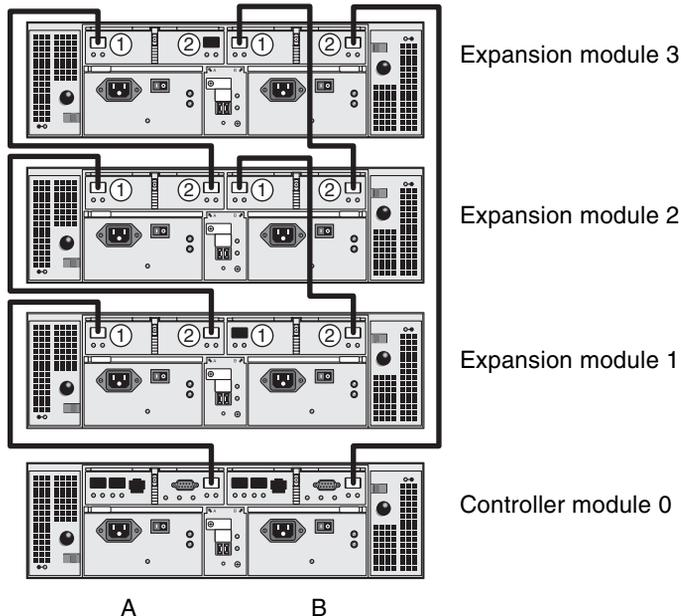

FIGURE 2-23 1x4 Array Configuration Cable Interconnection Cabling
3. Connect one FC cable between the A side expansion port of controller module 0 and the A side port 1 of expansion module 1 (FIGURE 2-23).
4. Connect one FC cable between the A side port 2 of expansion module 1 and the A side port 1 of expansion module 2 (FIGURE 2-23).
5. Connect one FC cable between the A side port 2 of expansion module 2 and the A side expansion port 1 of expansion module 3 (FIGURE 2-23).
6. Connect one FC cable between the B side expansion port of controller module 0 and B side port 2 of expansion module 3 (FIGURE 2-23).
7. Connect one FC cable between the B side port 1 of expansion module 3 and the B side port 2 of expansion module 2 (FIGURE 2-23).
8. Connect one FC cable between the B side port 1 of expansion module 2 and the B side port 2 of expansion module 1 (FIGURE 2-23).